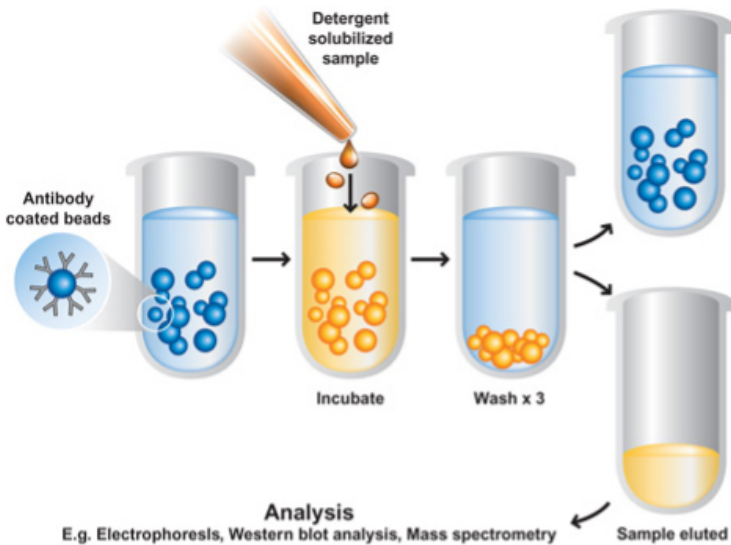

Figure 1. Schematic showing the various stages of the immunocapture assay.
- **Sample extraction:** The provided lauryl maltoside extraction buffer is formulated to be non-denaturing to preserve protein-protein interactions useful for co-immunoprecipitation. However, other types of extraction conditions are compatible with this kit. Figure 1 shows the immunocapture beads are also compatible with RIPA extraction buffer (50 mM Tris pH 7.5, 150 mM NaCl, 1% Nonidet P-40, 0.5% sodium deoxycholate, 0.1% SDS) and SDS extraction buffer (1% SDS in 1X PBS). Note that the SDS extracts must be diluted 20-fold prior to incubation with antibody loaded beads to avoid antibody denaturation.
Figure 1. p53 immunocapture kit (ab154470) is compatible with several different extraction methods. Hek293 cells were extracted with lauryl maltoside (lanes 2, 5, 8), RIPA buffer (lanes 3, 6, 9) or SDS (lanes 4, 7, 10). Extracts of whole cells (20 μ g, lanes 2-4), one-fifth of immunoprecipitation samples using the p53 immunocapture beads (1 mg extract per 10 μ L beads, lanes 5-7), and one-fifth of immunoprecipitation samples using a negative control antibody (ab135397, 1 mg extract per 10 μ L beads, lanes 8-10) were analyzed by Western blot using ab32389 anti-p53.